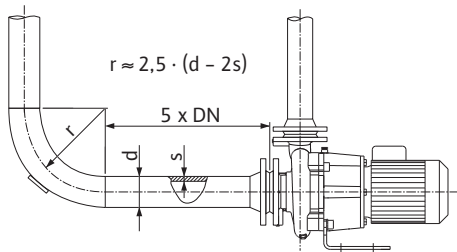
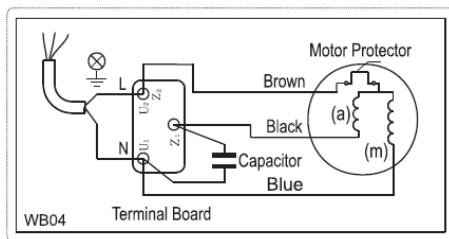

Fig. 4: Settling section upstream and downstream of the pump
Fig. 5: Alternating current
- The mains connection depends on the motor power P₂, mains voltage and activation type. Refer to the following table and Fig. 4 and Fig. 5 for the required connection of the connecting bridges in the terminal box.